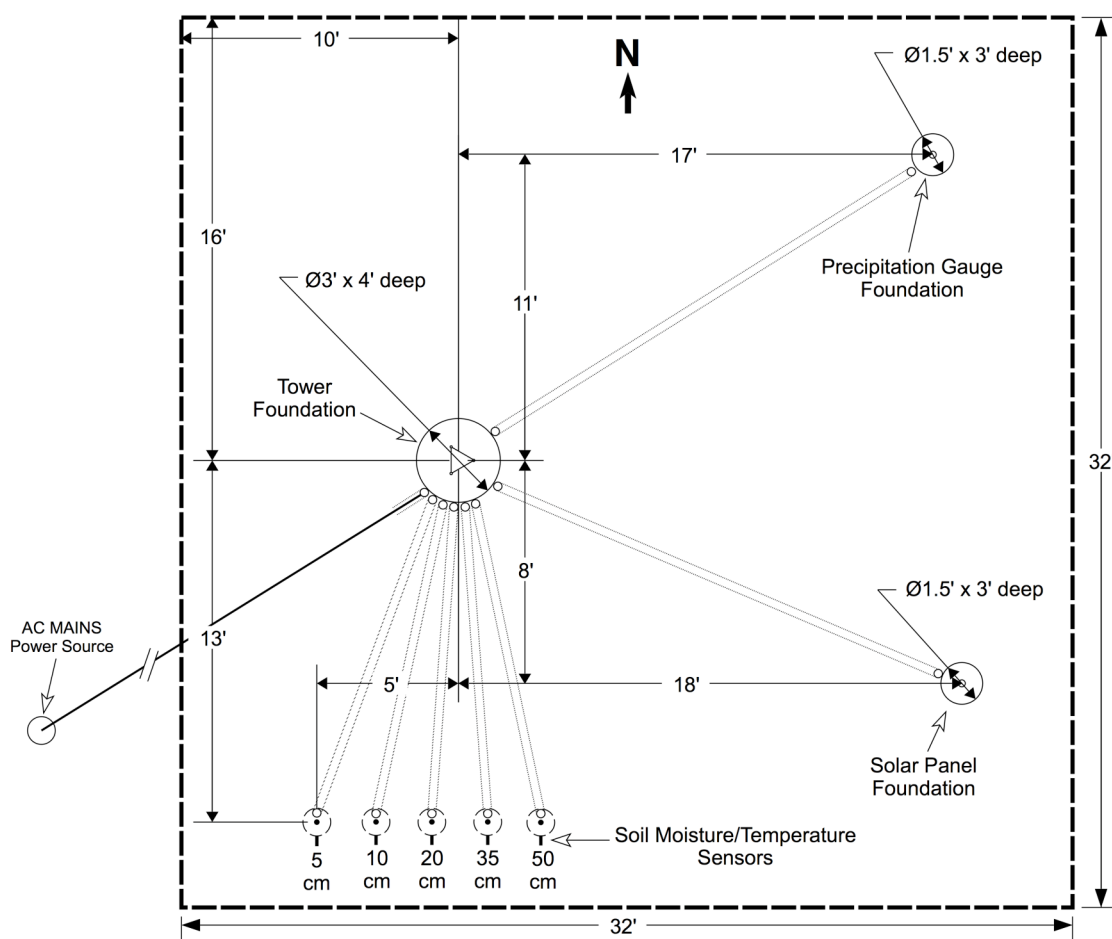

Figure 15. Plan view of a station plot that measures 32-by-32 feet showing the placement of foundations and conduit.
6. Install the tower base foundation, as shown in Figure 15, with the center of the tower 10 feet east and 16 feet south of the northwest corner of the plot. Install the tower base so that the tower will tilt to the west, with one of the flat tower sides facing due west (i.e., the side extends north-south). If a concrete foundation is necessary, take a photo of the foundation hole before pouring the concrete, as explained in Section 12, Photographic Documentation of Station Installation, beginning on Page 43. Install the concrete base for the tower as illustrated in Figure 15.
7. Install the concrete foundation for the precipitation gauge 11 feet north and 17 feet east of the tower, as shown in Figure 15. The precipitation gauge must be centered at the location shown in Figure 15. Dig a hole 1.5 feet in diameter and 3 feet deep, and insert a cylindrical concrete form into the hole. Drive a 2" pipe that is long enough to extend from the bottom of the hole to the precipitation gauge mount into the ground at the center of the hole. Verify that the pipe is exactly vertical and centered in the concrete form, and secure it in place at the top of the hole with a jig. Take a photo of the foundation hole before pouring the concrete, as explained in Section 12, Photographic Documentation of Station Installation, beginning on Page 43. Fill the concrete form with concrete and allow it to cure.
8. Install the solar panel mast foundation (if a solar panel is to be used) at a distance 8 feet south and 18 feet east of the tower, as shown in Figure 15. Dig a hole 1.5 feet in diameter and 3 feet deep, and insert a cylindrical concrete form into the hole. Drive a pipe of the proper size for the solar panel mount and that is long enough to extend from the bottom of the hole to the solar panel array mount into the ground at the center of the hole. Verify that the pipe is exactly vertical and centered in the concrete form, and secure it in place at the top of the hole with a jig. Take a photo of the foundation hole before pouring the concrete, as explained in Section 12, Photographic Documentation of Station Installation, beginning on Page 43. Fill the concrete form with concrete and allow it to cure.
22. Install conduit between the tower and the solar panel or solar battery enclosure, as shown in Figure 15. At the solar panel end, leave enough conduit length to attach it directly to the battery enclosure with a conduit fitting or to route it to the solar panel junction box where the output cable is connected to prevent string trimmer, lawn mower, or animal damage to the cables. At the tower end, leave enough conduit length to attach it directly to the logger enclosure with a conduit fitting. Bury the conduit so that it is at or below ground level to allow a mower to pass over it.
35. Install conduit between the tower and the precipitation gauge pedestal, as shown in Figure 15, allowing enough length to route it up the precipitation gauge pedestal to the base of the gauge. At the tower end, leave enough conduit length to attach it directly to the logger enclosure with a conduit fitting to prevent string trimmer, lawn mower, or animal damage to the cables. Bury the conduit so that it is at or below ground level to allow a mower to pass over it.